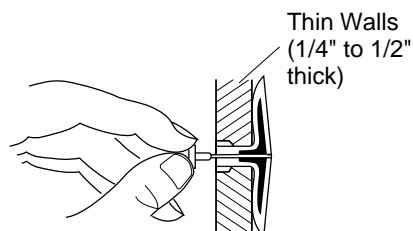

Figure 7 - Popping Open Anchor Wings For Thin Walls
4. For thin walls (1/2" or less), insert red key into wall anchor. Push red key to "pop" open anchor wings (see Figure 7). **IMPORTANT:** Do not hammer key!